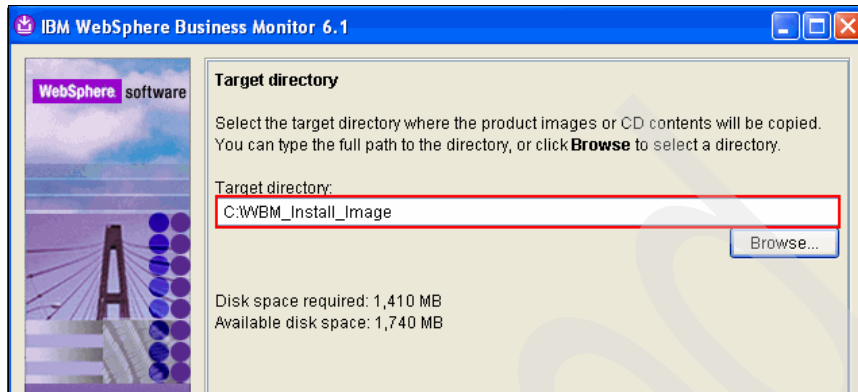

Figure 3-13 WebSphere Business Monitor 6.1 installation preparation: Target directory
5. In the Target directory panel (Figure 3-13), in the Target directory field, enter a path. In our example, we type C:\WBM_Install_Image. Click **Next**.